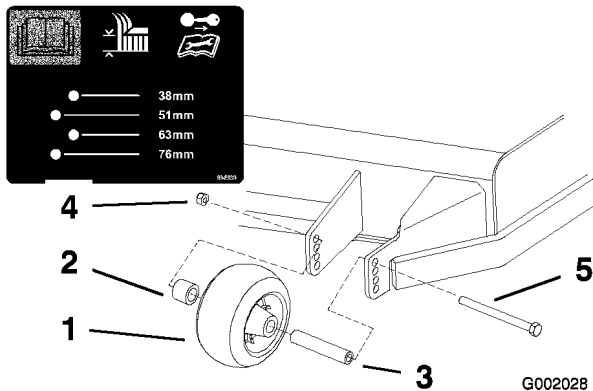
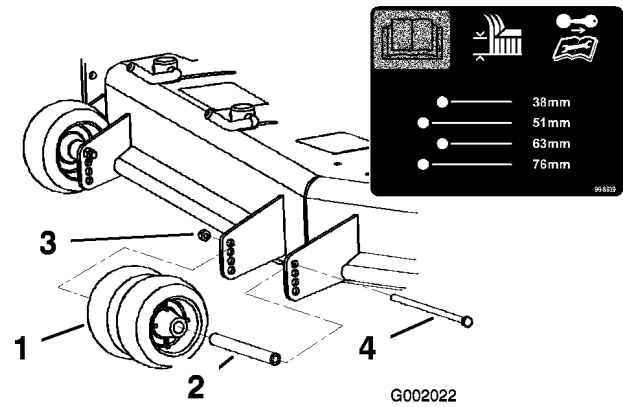
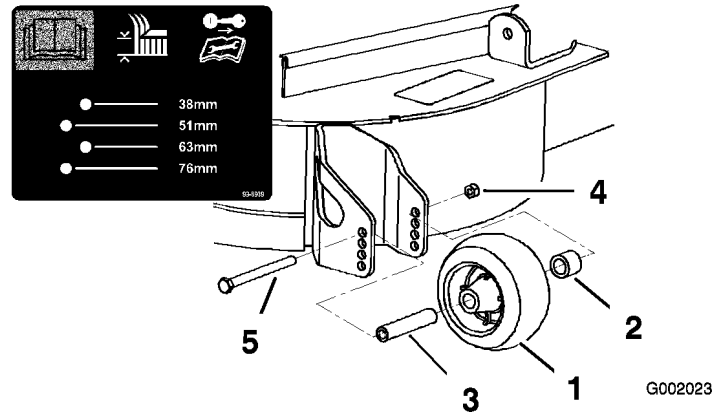

Figure 20
Figure 21
Figure 22
3. After adjusting the height-of-cut, adjust the rollers by removing the flange nut, spacer, and bolt (Figure 20 , Figure 21 and Figure 22).
Note: The two middle rollers will not have a spacer (Figure 21).
5. Install the flange nut bushing, spacer, and bolt. Torque to 40-45 ft-lb (54-61 N•m) (Figure 20 , Figure 21 and Figure 22).